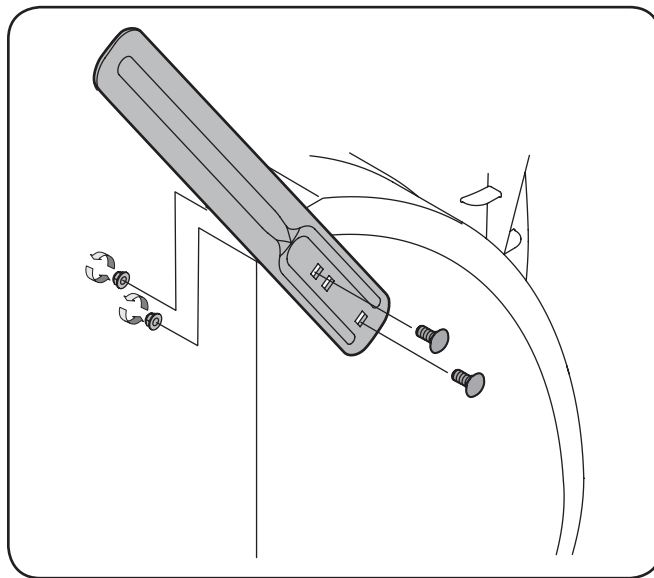

Figure 3-28
2. Turn the drift cutters around and position them as shown in Fig. 3-28 to the outside of the auger housing.